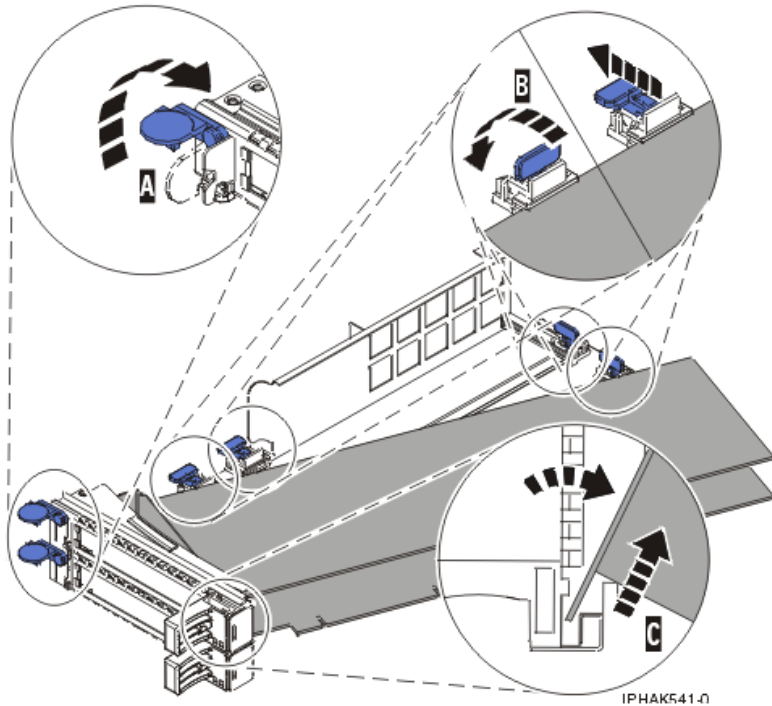
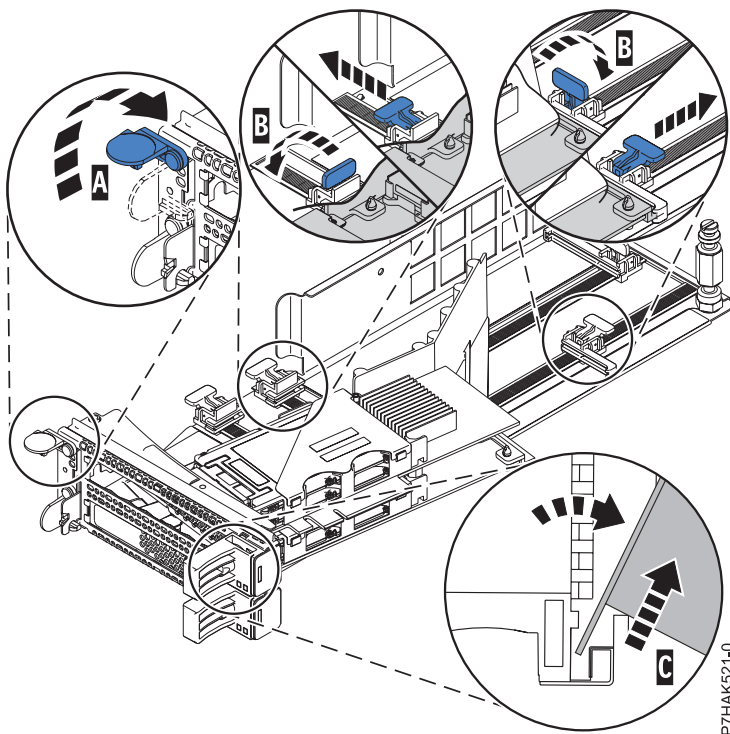

Figure 93. Adapter removed from the PCI adapter cassette
Figure 94. PCIe RAID and SSD SAS adapter removed from the PCI adapter cassette
- d. Unscrew pivot pin (C) and put it in a safe place
- a. Unlock the adapter retainers (B) by rotating the retainer clips (A) into the horizontal position. See Figure 93 on page 100. If you are removing a PCIe RAID and SSD SAS adapter, see Figure 94 on page 100.